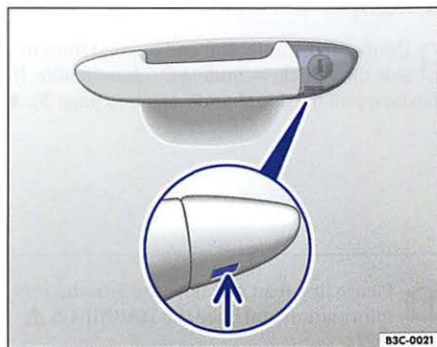

Fig. 168 Door handle on driver door: Concealed lock cylinder.
- Insert the key bit from below into the opening of the cover cap on the driver door $\Rightarrow$ fig. 168 (arrow) and lift the cover cap off.